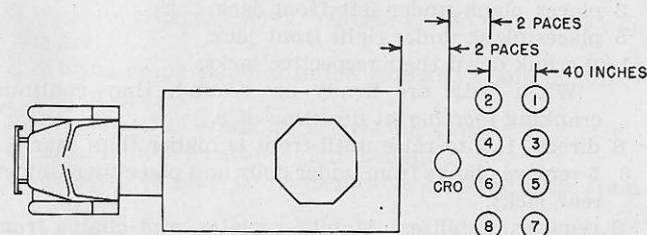

FIGURE 48.—Positions at command FALL IN.
■ 53. FALL IN.—Command is given by CRO. The section takes the positions indicated in figure 48.